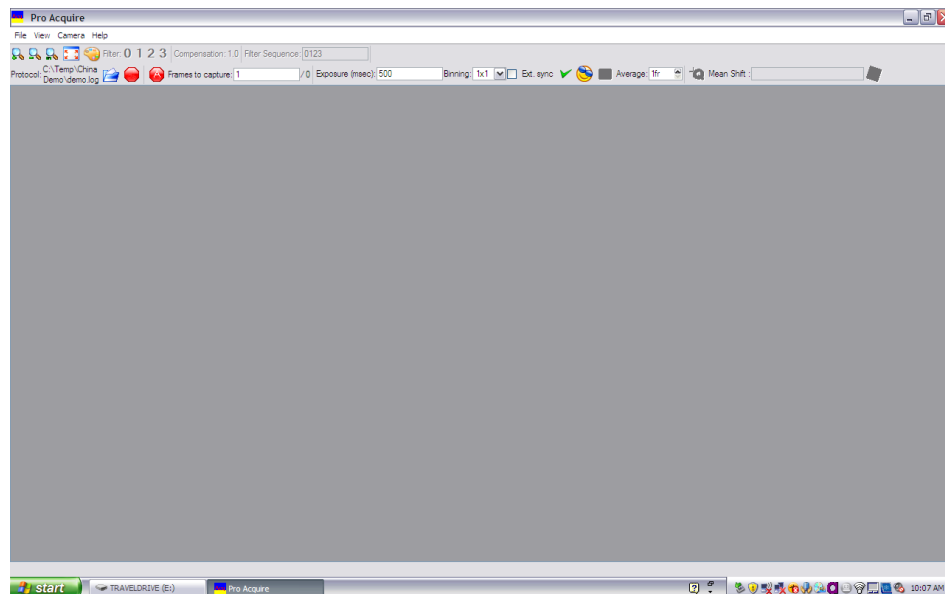

Figure 10: OMS Acquire main page
**Data Acquisition:** Open up OMS Acquire Apogee by double-clicking on the  icon on the desktop. This will bring up the capture software in OMS Acquire and will look like the Figure 10.